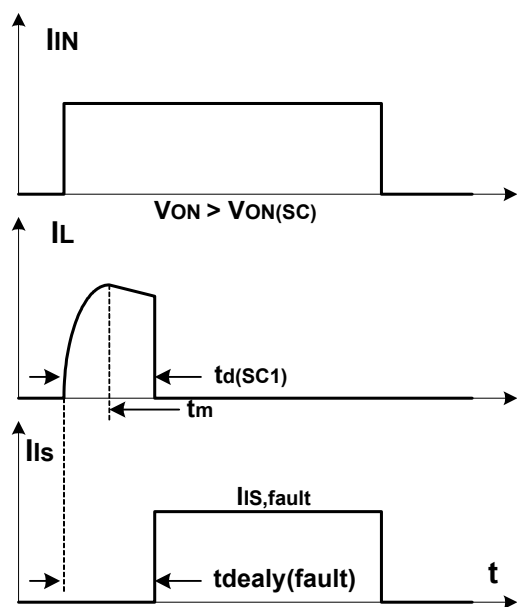

Figure 3b. Short circuit type one:
13) Short circuit current limit for max. duration of td(SC1) , prior to shutdown, see also figures 3b on page 15.